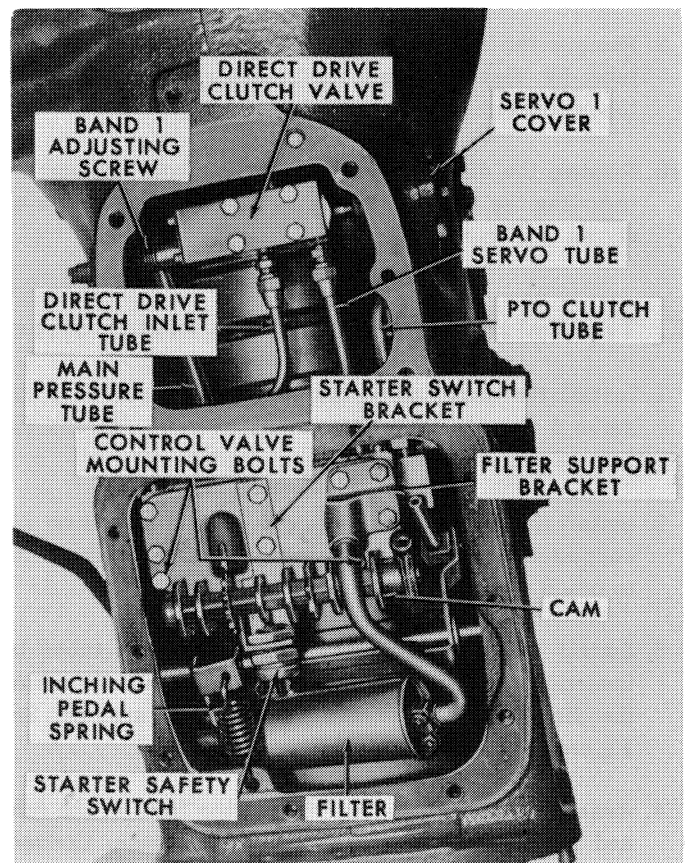

Figure 65
8. Remove the direct drive clutch valve by removing the four bolts securing the valve to the support. See Figure 65.
3. Install the servo 1 and direct drive clutch tubes by inserting the tubes into the distributor and attaching the fittings at the direct drive clutch support. See Figure 65.